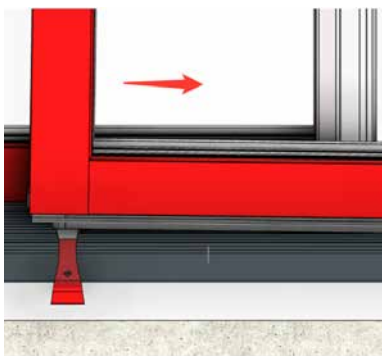

Fig P10
- Holding the pry-bar in place, lift and slide the bottom of the panel into the jamb (Fig. P10)